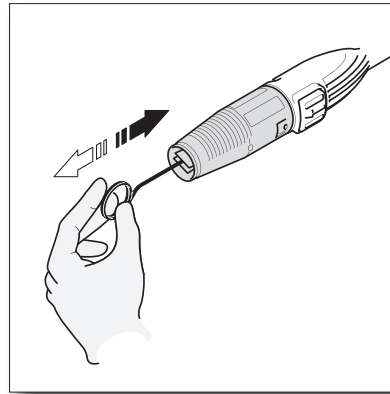

Fig. 17
- Using the nozzle tip cleaner provided (or an unfolded paper clip), insert the wire into the nozzle hole and move back and forth until debris is dislodged (**Fig. 17**). Back flush water through the nozzles using garden hose and highest pressure available (either standard water nozzle or use your thumb over the nozzle to create water pressure for back flush).